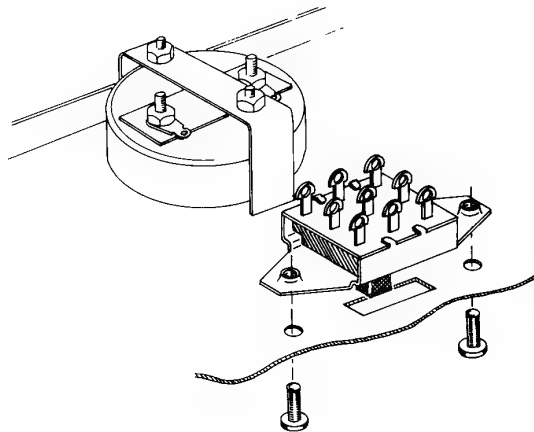

Figure 2-5
- (✓) Mount the slide switch, using two 6-32 x 3/8" BHMS as shown in Figure 2-5.